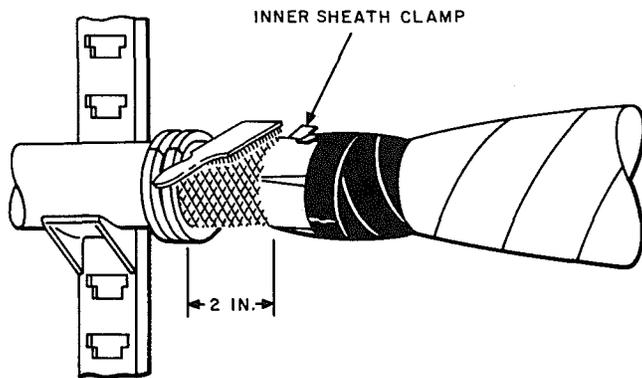

Fig. 18—Scuffing Sheath
3.17 *Thoroughly scuff the sheath for a distance of about 2 inches starting at the outside end of the inner sheath clamps (Fig. 18).*